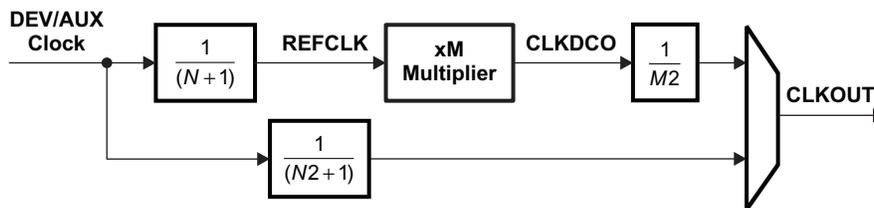
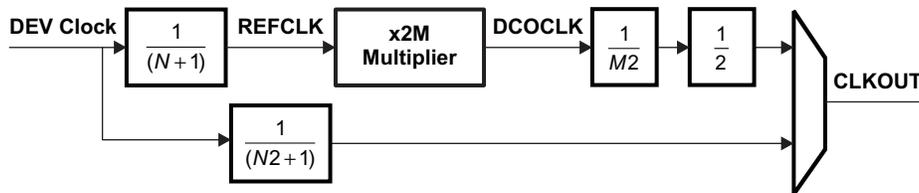

Figure 7-16. Top-Level PLL Simplified Block Diagram
Figure 7-17. PLL_ARM Simplified Block Diagram
The device contains 12 top-level PLLs, and 4 embedded PLLs (within the ARM Cortex-A8, PCIE, SATA, and CSI) that provide clocks to different parts of the system. Figure 7-16 and Figure 7-17 show simplified block diagrams of the Top-Level PLL and PLL_ARM. In addition, see the System Clocking Overview (Figure 7-6) for a high-level view of the device clock architecture including the PLL reference clock sources and connections.
(1) This parameter describes the limits on the programmable multiplier value M. The multiplication factor for the PLL_ARM is equal to 2 * M (also see Figure 7-17).
(2) The PLL Multiplier supports fractional values (up to 18-bits of fraction) except when the PLL Multiplier is < 20 OR > 2045.